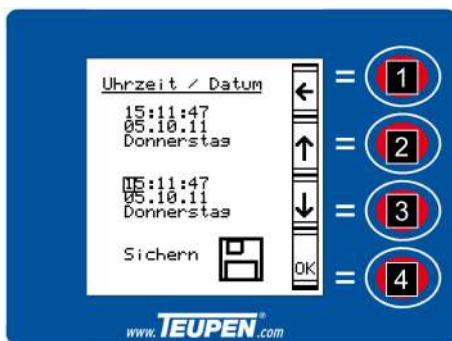

Fig. 70: Saving the time set-up
6. ➤ Using the *[function key]* (Fig. 70/2 and 3) set the cursor to "save".
7. ➤ Using the *[function key]* (Fig. 70/4) confirm the setting.
8. ➤ Using the *[function key]* (Fig. 70/1) return to the *[setting]* menu.